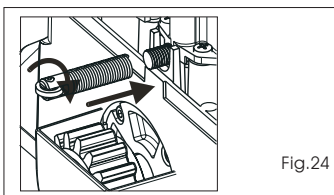
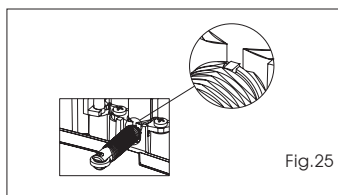
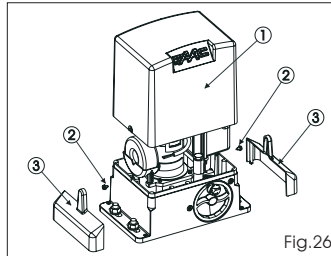
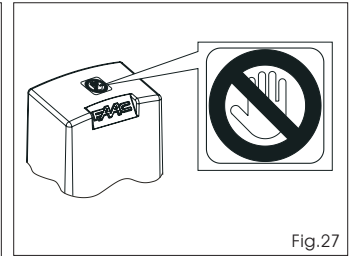

Fig.24
Fig.25
Fig.26
Fig.27
- Fit the spring turning it **clockwise**, Fig. 24, until the stop is reached; see Fig. 25.
Return the board support to its original position. Fit the cover, Fig. 25 ref. 1, and tighten the two side screws provided (Fig. 26 ref 2), and snap-fit the side panels (Fig. 26 ref.3). Apply the danger sticker on the top of the cover (Fig. 27).